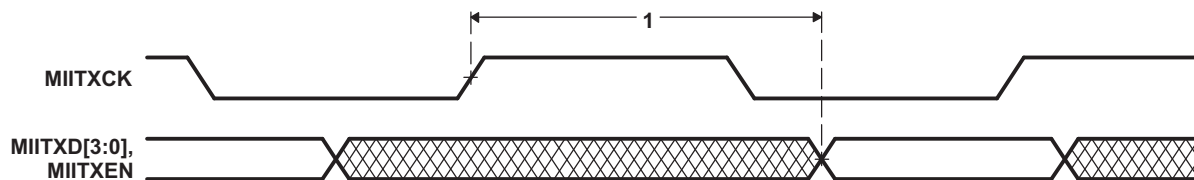

**Figure 5-38. 100/10Mb/s MII Transmit Timing**
**Table 5-61. Switching Characteristics for EMAC MII Transmit (see Figure 5-38)**